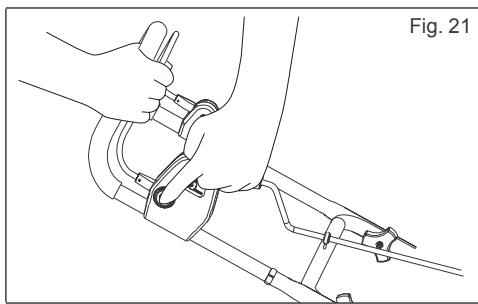

Fig. 21
- While depressing the safety switch button, pull the ON/OFF control bar toward you. Once the machine powers on, release the safety switch button and begin operation (Fig. 21). The machine can only be started by depressing the safety switch button first, followed by squeezing the ON/OFF control bar; reverse operation will not start the machine.